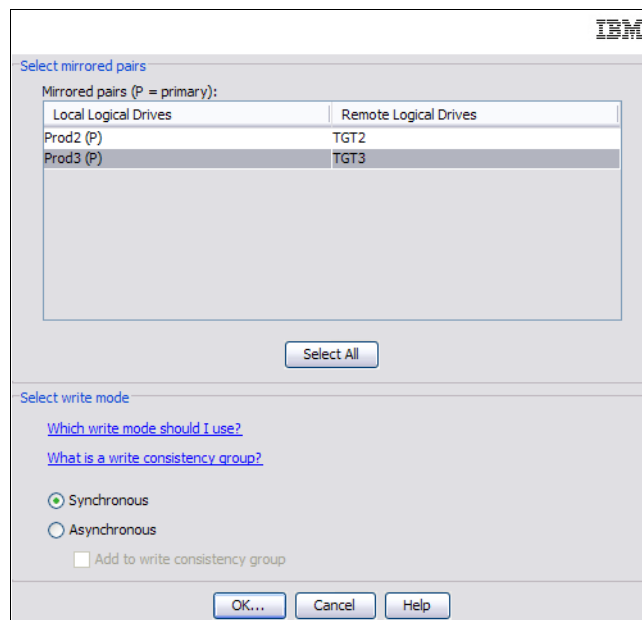

Figure 5-32 Change Write Mode dialog
2. The Change Write Mode dialog opens. The Select mirrored pairs section lists all primary logical drives in the storage subsystem. The primary logical drive that you selected to invoke the option is highlighted, similar to Figure 5-32.